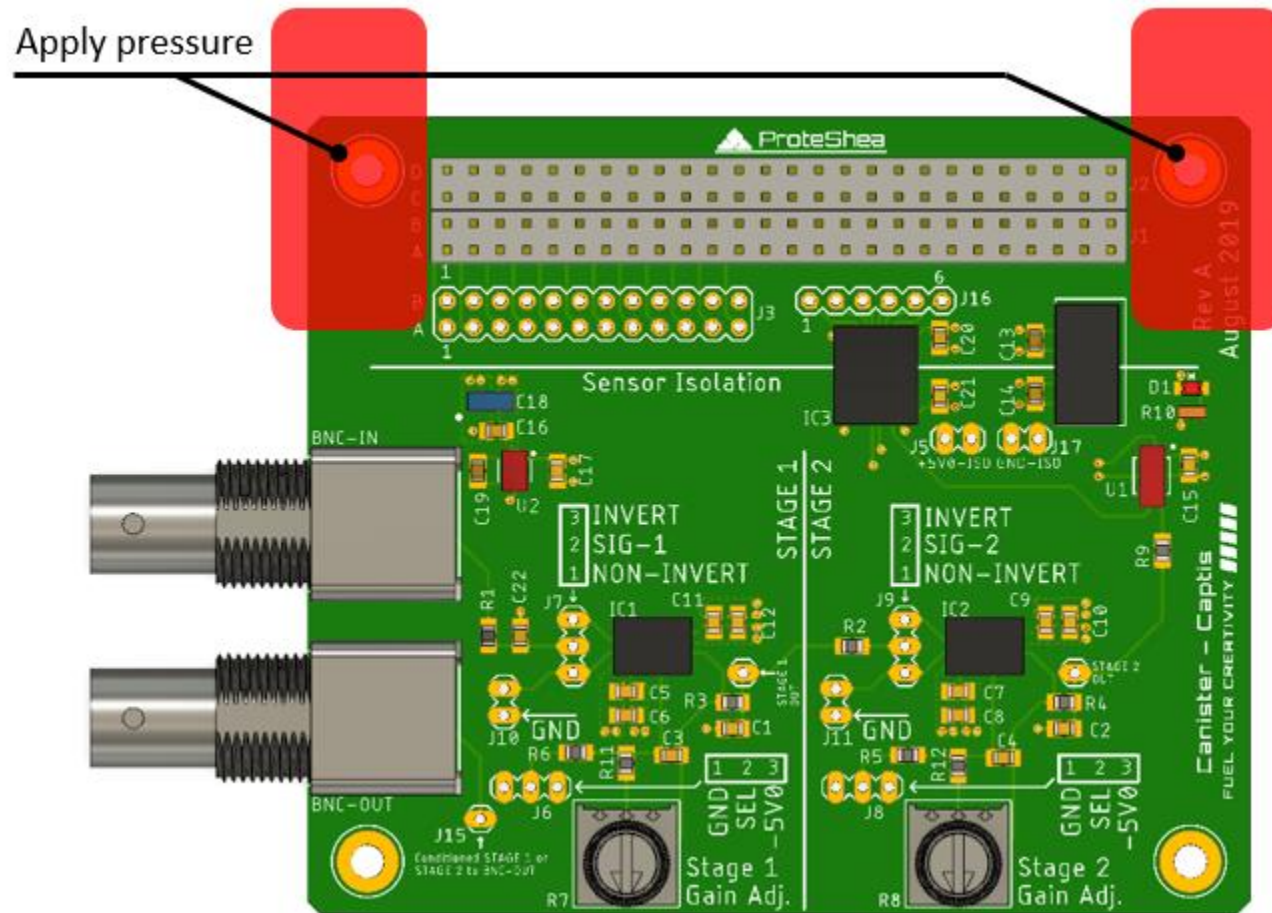

Figure 22. Areas to Apply Pressure for Installation or Removal.
5. Use two hands and apply even pressure on both sides of the Canister (areas marked in red in Fig. 22) to press into Main Interface board or another Canister board.